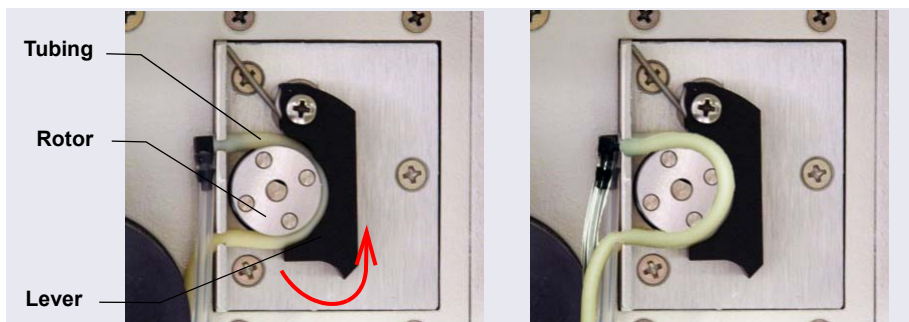

Figure 6-1. Peristaltic Pump for Seal Wash System
- Disconnect the tubing from the peristaltic pump on the component panel: lift the lever up and to the right, remove the tubing, and release the lever (see Figure 6-1).
- Disconnect the tubing from the peristaltic pump on the component panel: press the lever to the right, remove the tubing, and release the lever (see Figure 6-1).